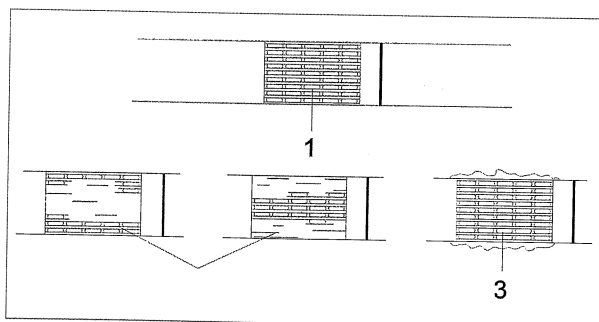

Fig.12 Cheching of seal
-Check appearance of seal (see fig. 12) regularly.